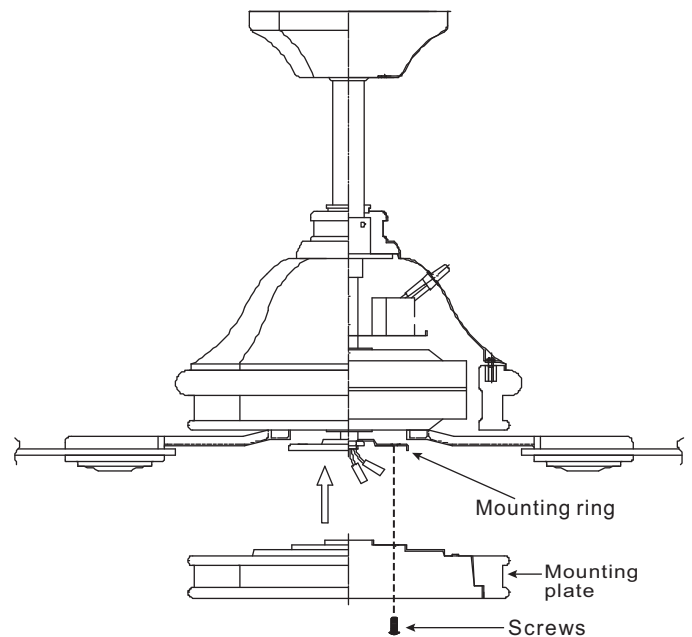

Figure 15
2. Place the key holes on the mounting plate over the 2 screws previously loosened from the mounting ring, turn mounting plate until it locks in place at the narrow section of the key holes. Secure by tightening the 2 screws previously loosened and the one previously removed. (Figure 15)